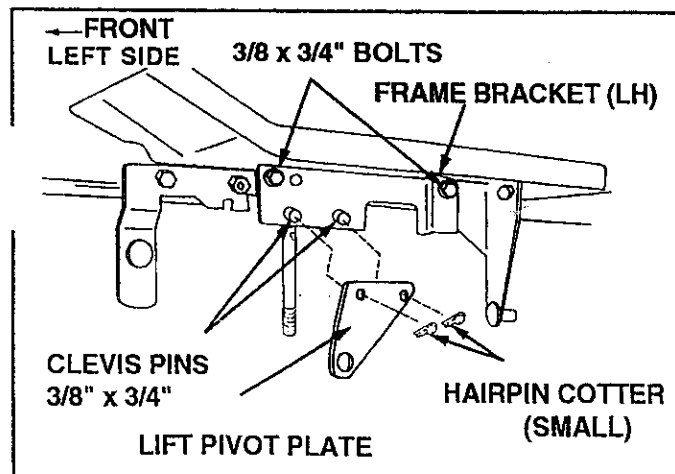

FIGURE 15
10. Assemble the frame bracket (LH) under the left hand foot rest of the tractor using two  $3/8"$  x  $3/4"$  hex bolts. Tighten securely being careful not to strip threads. See figure 15.
11. Assemble the lift pivot plate to the left hand frame bracket using two  $3/8"$  x  $3/4"$  clevis pins and secure with two  $3/32"$  (small) hairpin cotters. See figure 15.